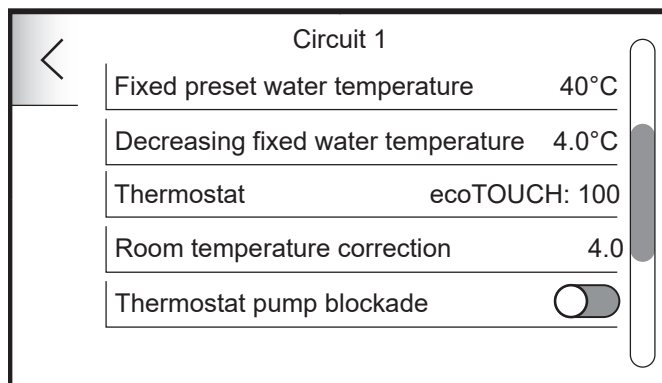

Figure 7-12: Edit Circuit 1 settings
- Swiping the touchscreen display scroll down to 'Thermostatic pump blockade'. Tap the icon to switch on. (Refer to Figure 7-12)